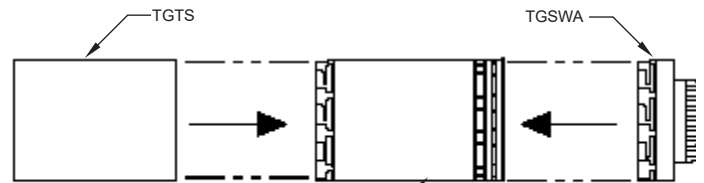

FIG. 9a
8. Install tee cap to bottom of wall support adaptor with a minimum of two (2) #10 x 1/2" sheet metal screws.
10. Slip a trim sleeve joint cover (TGTS) over the male end of TG pipe that is to reach through the wall firestop to the tee. Attach single wall adaptor (TGPSWA) to the female end of TG pipe and slip TGTS flush to the end of TGPSWA. (See FIG. 9a and 9b.)